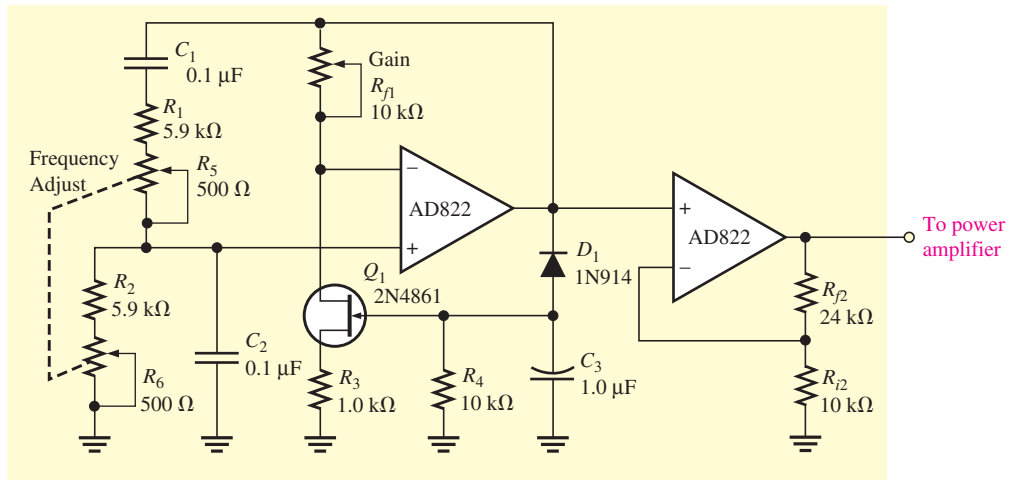

FIGURE SE10-2 Wien-bridge oscillator circuit and amplifier.
The Wien-bridge oscillator and voltage amplifier circuit is shown in Figure SE10-2. It uses the AD822 op-amp, which is a dual-precision, low-power and low-noise FET input op-amp. The first half of the op-amp is used for the Wien-bridge oscillator; the second half is for the voltage amplifier. The AD822 has very low offset drift over its specified temperature range (maximum input bias current drift of 10 pA for B Grade). It uses very low power, making it an excellent choice for a battery powered circuit. Notice that the rheostats trim the frequency and are ganged. Assuming the rheostats are both set to 184 Ω of resistance, the frequency of the Wien-bridge is
- What is the gain of the voltage amplifier in Figure SE10-2?